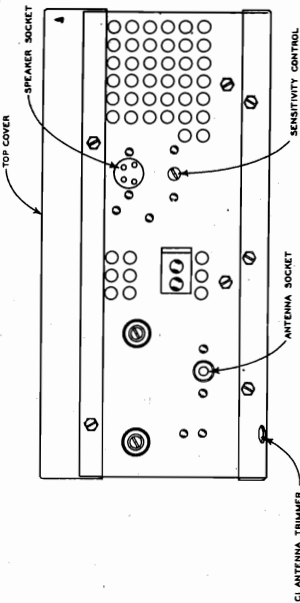

FIG. 4 BACK VIEW OF SET
1. Turn selector switch to "Manual Tuning" (D).
4. Adjust oscillator trimmer C-2C for maximum response. (See Fig. 4).
6. Adjust R-F trimmer C-2B (See Fig. 4) and the antenna trimmer C-39 (See Fig. 4) or maximum response.
Note: The Model 6FLD is equipped with an adjustable sensitivity control located in the position indicated in Fig. 4. This control is properly adjusted at the factory to provide a sensitivity of 7 microvolts at one watt output. The factory adjustment of this control provides as high a sensitivity level as possible without introducing excessive background noise. No attempt should be made to change the setting of the control unless laboratory equipment is available for measuring sensitivity.
3. Adjust the oscillator trimmer C-11, the RF trimmer C-7 and the antenna trimmer C-1 for maximum response, in the sequence given. (See Fig. 4 & 5 for trimmer locations.)
Note: The Model 6F2D is equipped with an adjustable sensitivity control located in the position indicated in Fig. 4. This control is properly adjusted at the factory to provide a sensitivity of 6 microvolts at one watt output. The factory adjustment of this control provides as high a sensitivity level as possible without introducing excessive background noise. No attempt should be made to change the setting of the control unless laboratory equipment is available for measuring sensitivity.